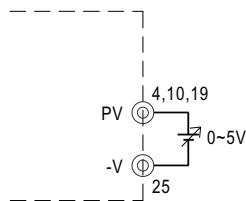

Figure 3-1 Connection for the external DC voltage source
◎Output voltage can be adjusted between 90%~110% of the rated value by adding external voltage source. Please refer to Figure 3-1 for details.
(1)Connect an external DC voltage source between PV (pin 4, 10, 19) and -V (pin 25) on CN500 connector, as shown in Figure 3-1.